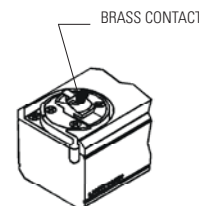

FIG.5
1. Lift brass contact tab approximately ¼ in. (7mm). (Fig.5)